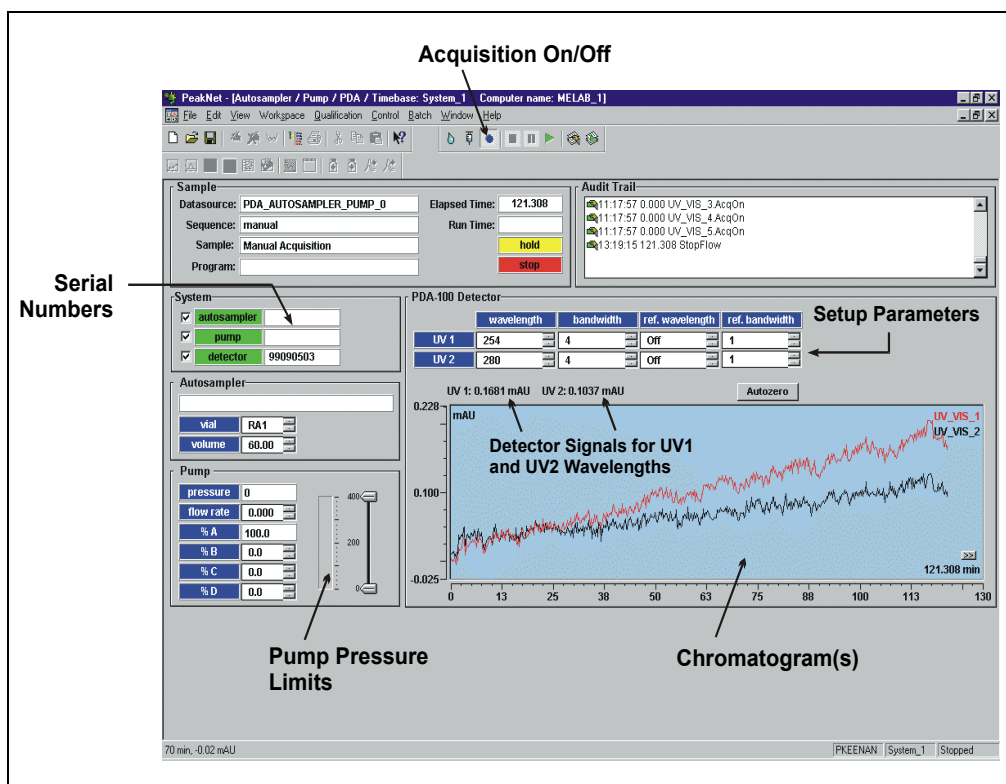

Figure 3-1. PDA-100 2D Control Panel Example
- DIONEX_PUMP_PDA_AUTOSAMPLER.PAN, the 2D control panel, monitors chromatograms of up to five signals (see Figure 3-1).